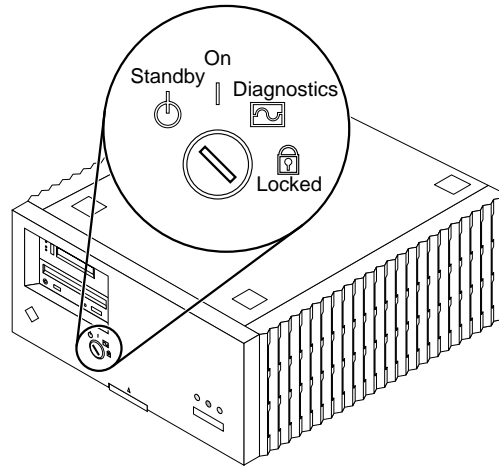

Figure 3-1 Key Switch in the Standby Position
- a. **Ensure the key switch on the front panel is in the Standby position (completely counterclockwise, see Figure 3-1).**